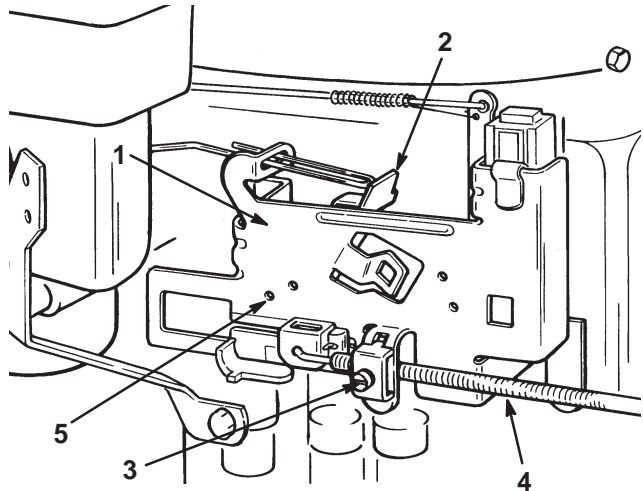

Figure 26
- B. With the throttle in the “FAST” position, index holes in the governor control lever and the governor plate must align (Fig. 26). If they do not align, refer to step 4 for adjustment procedure.
- B. Loosen the throttle cable clamp screw until you can slide the throttle cable casing (Fig. 26).
- C. Move the throttle cable casing until the index holes in the governor control lever and the governor plate align (Fig. 26). Now tighten the cable clamp screw.